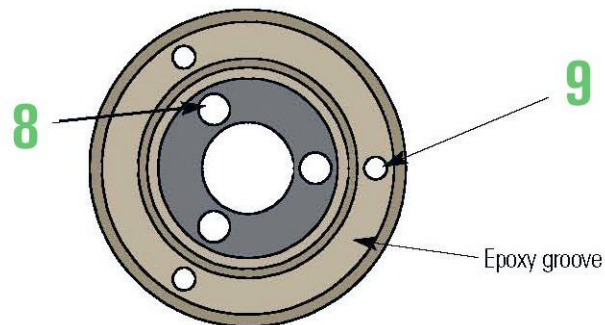

Figure 7
8. Verify that the sizes of the three threaded mounting holes are correct through the table in Figure 7.
9. Verify the number of Epoxy holes is correct in Figure 7.